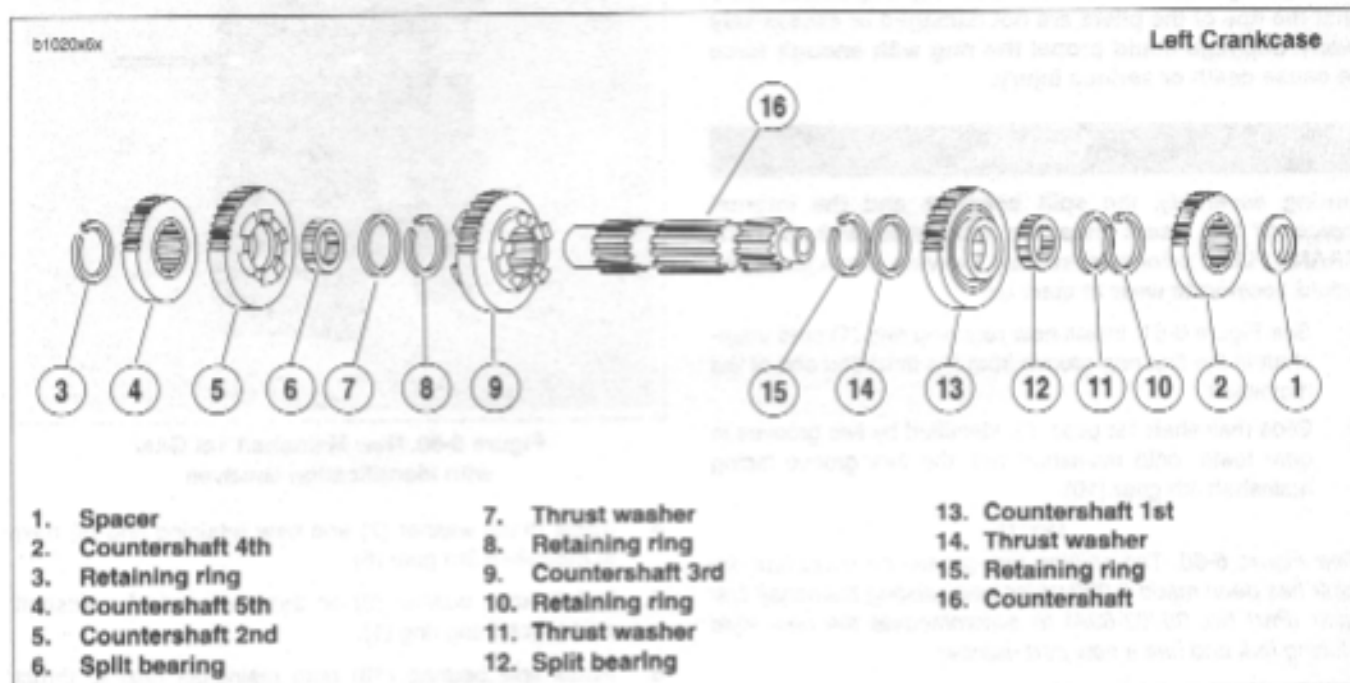

Figure 6-59. Transmission Countershaft Assembly Once Removed from Left Crankcase/Disassembly
- See Figure 6-59. Remove spacer (1) and countershaft 4th gear (2) from the end of the of the countershaft with internal threads.
- Using RETAINING RING PLIERS (Part No. J-5586), remove and discard retaining ring (3) next to countershaft 5th gear (4).
- Slide countershaft 5th (4), and countershaft 2nd (5) off end of countershaft.
- Remove split bearing (6) that was under countershaft 2nd gear (5) and thrust washer (7).
- Remove retaining ring (8) on the countershaft and slide countershaft 3rd gear (9) off free end of countershaft.
- Expand retaining ring (10) located next to countershaft 1st gear (11). Remove retaining ring (10) and thrust washer (11).
- Slide countershaft 1st gear (13) off end of shaft.
- Remove split bearing (12).
- Remove thrust washer (14). Expand remaining retaining ring (15) and slide off countershaft.